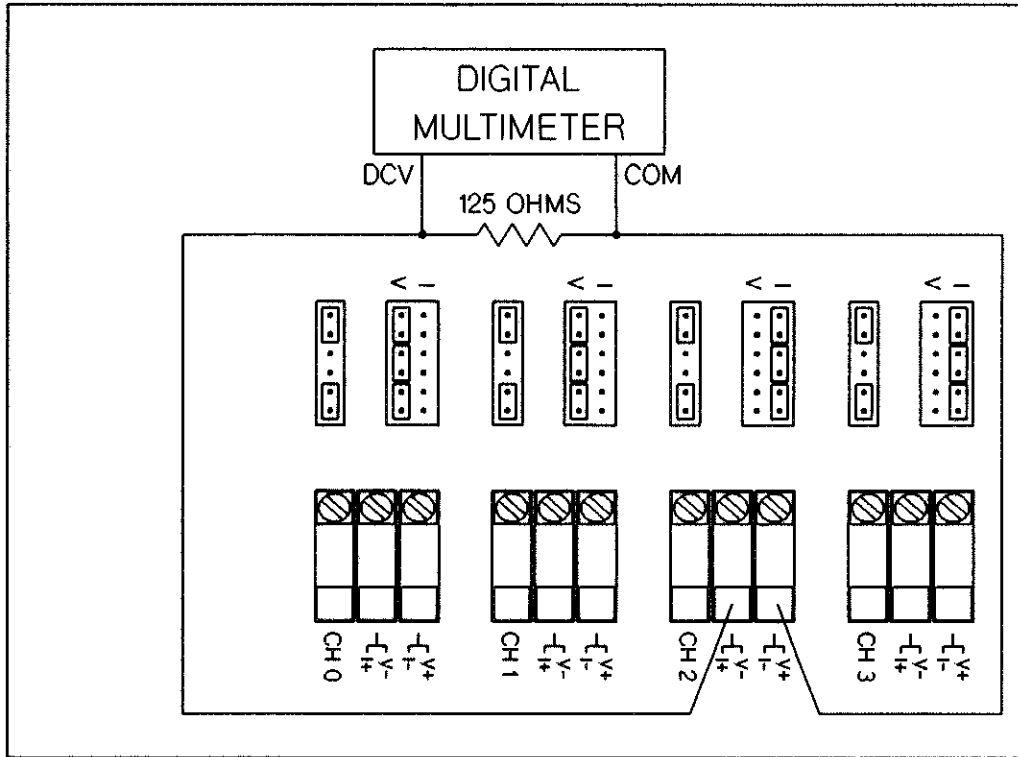

Figure 15-14 HP 44727A/B/C Load Regulation Low Connection
2. Set the multimeter to measure dc volts. On the test fixture, connect the multimeter DCV input to the I- connection and connect the COM input to the I- connection of the channel to be tested. Connect the 125 ohm resistor across the channel's I+ and I- connections. The connections are shown in Figure 15-14.